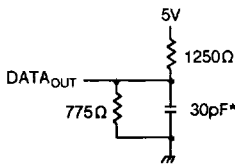

Figure 1. Output Load
Output Load	See Figures 1 & 2
1. Transition is measured  $\pm 500$ mV from low or high impedance voltage with load (Figures 1 and 2).
1. Transition is measured ±500mV from low or high impedance voltage with load (Figures 1 and 2).